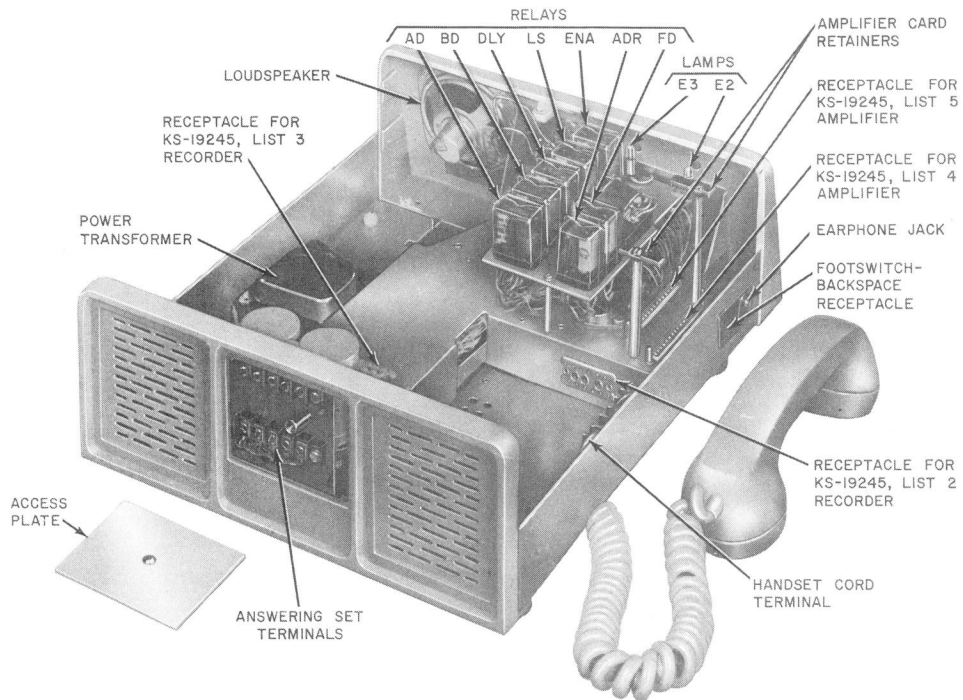

Fig. 4—KS-19245, List 1 Telephone Answering Set, Cover and Plug-In Components Removed
- (1) Remove top cover (2.01).
- (2) Remove ENA relay (3.04).
- (3) Pull out and hold spring clip on side of lamp socket and remove lamp E3 (Fig. 4).
- (4) Replace lamp E3, ENA relay and top cover.⚡
- (3) Plug new recorder into the plug-in receptacle (Fig. 4).
- (4) Replace and tighten the three retaining screws.
- (5) Replace outer cover and tighten four retaining screws.
- (5) Firmly grasp chassis of List 3 recorder and carefully withdraw until plug-in receptacle is disengaged (Fig. 4).
- (7) Plug new recorder into the plug-in receptacle (Fig. 4).
- (8) Replace and tighten the three retaining screws.
- (9) Replace List 6 cartridge (6.02).
- (10) Replace side and top covers.
- (1) Remove top cover of answering set (2.01).
- (2) Loosen retaining screws of the circuit board retainers.
- (3) Remove amplifier from its plug-in receptacle.
- (4) Plug new amplifier into plug-in receptacle (Fig. 4) and tighten screw of circuit board retainers.
- (5) Replace top cover.
### 3.04 Replacement of AD, BD, DLY, ENA, ED, LS, or ADR relays (Fig. 4):
- (4) Plug new relay into the plug-in socket (Fig. 4).
- (5) Engage wire spring retainer.
- (6) Replace top cover.
- (2) Remove KS-19245, List 3 recorder (3.02).
- (3) Unsolder speaker leads.
- (4) Remove four nuts and withdraw speaker (Fig. 4).
- (5) Install new speaker and tighten nuts.
- (6) Solder speaker leads.
- (7) Replace List 3 recorder.
- (8) Replace top cover.